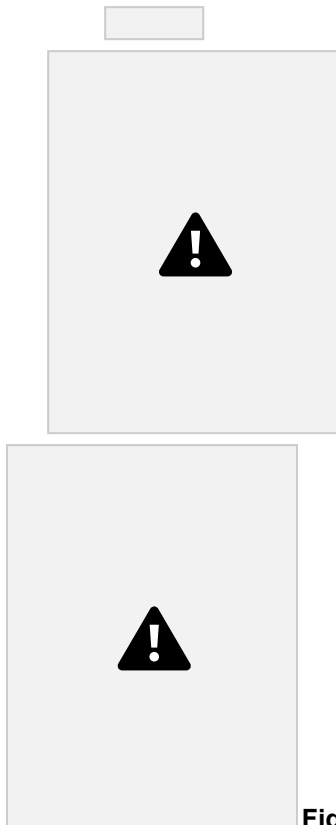

Fig. 11
5. Remove the 2 nuts that hold the black elbow and position the hose away from the pump clearing the way so the pump can be removed from the tank (Figure 11).